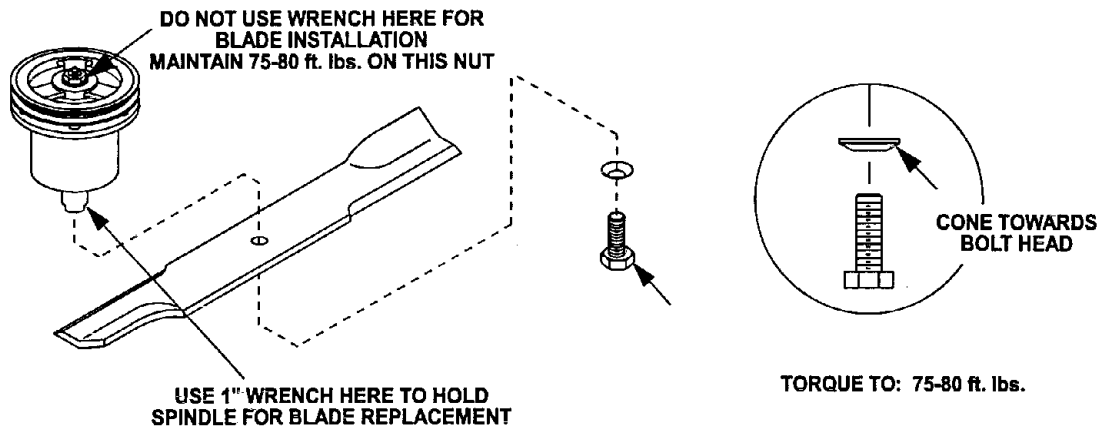

FIG. 4
- d) Torque blade bolts as shown. Be sure the spring disk washer cone is installed toward the bolt head (See Figure 4).